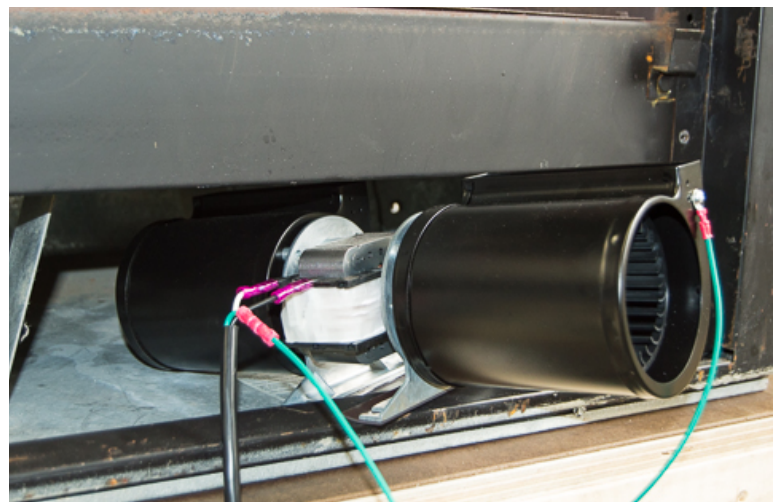

Figure: 1
Step 2: Secure Green wire from power cord to one of the holes on end of blower with small Ground Screw; connect white and black wires from cord set to either of the two spade terminals attached to the motor. Remove lower vent louver. (Figure: 1)
Position blower with rectangle air exit ports facing up and motor facing left. Slide blower into lower vent space all center against the rear wall. (Figures: 1 & 3)